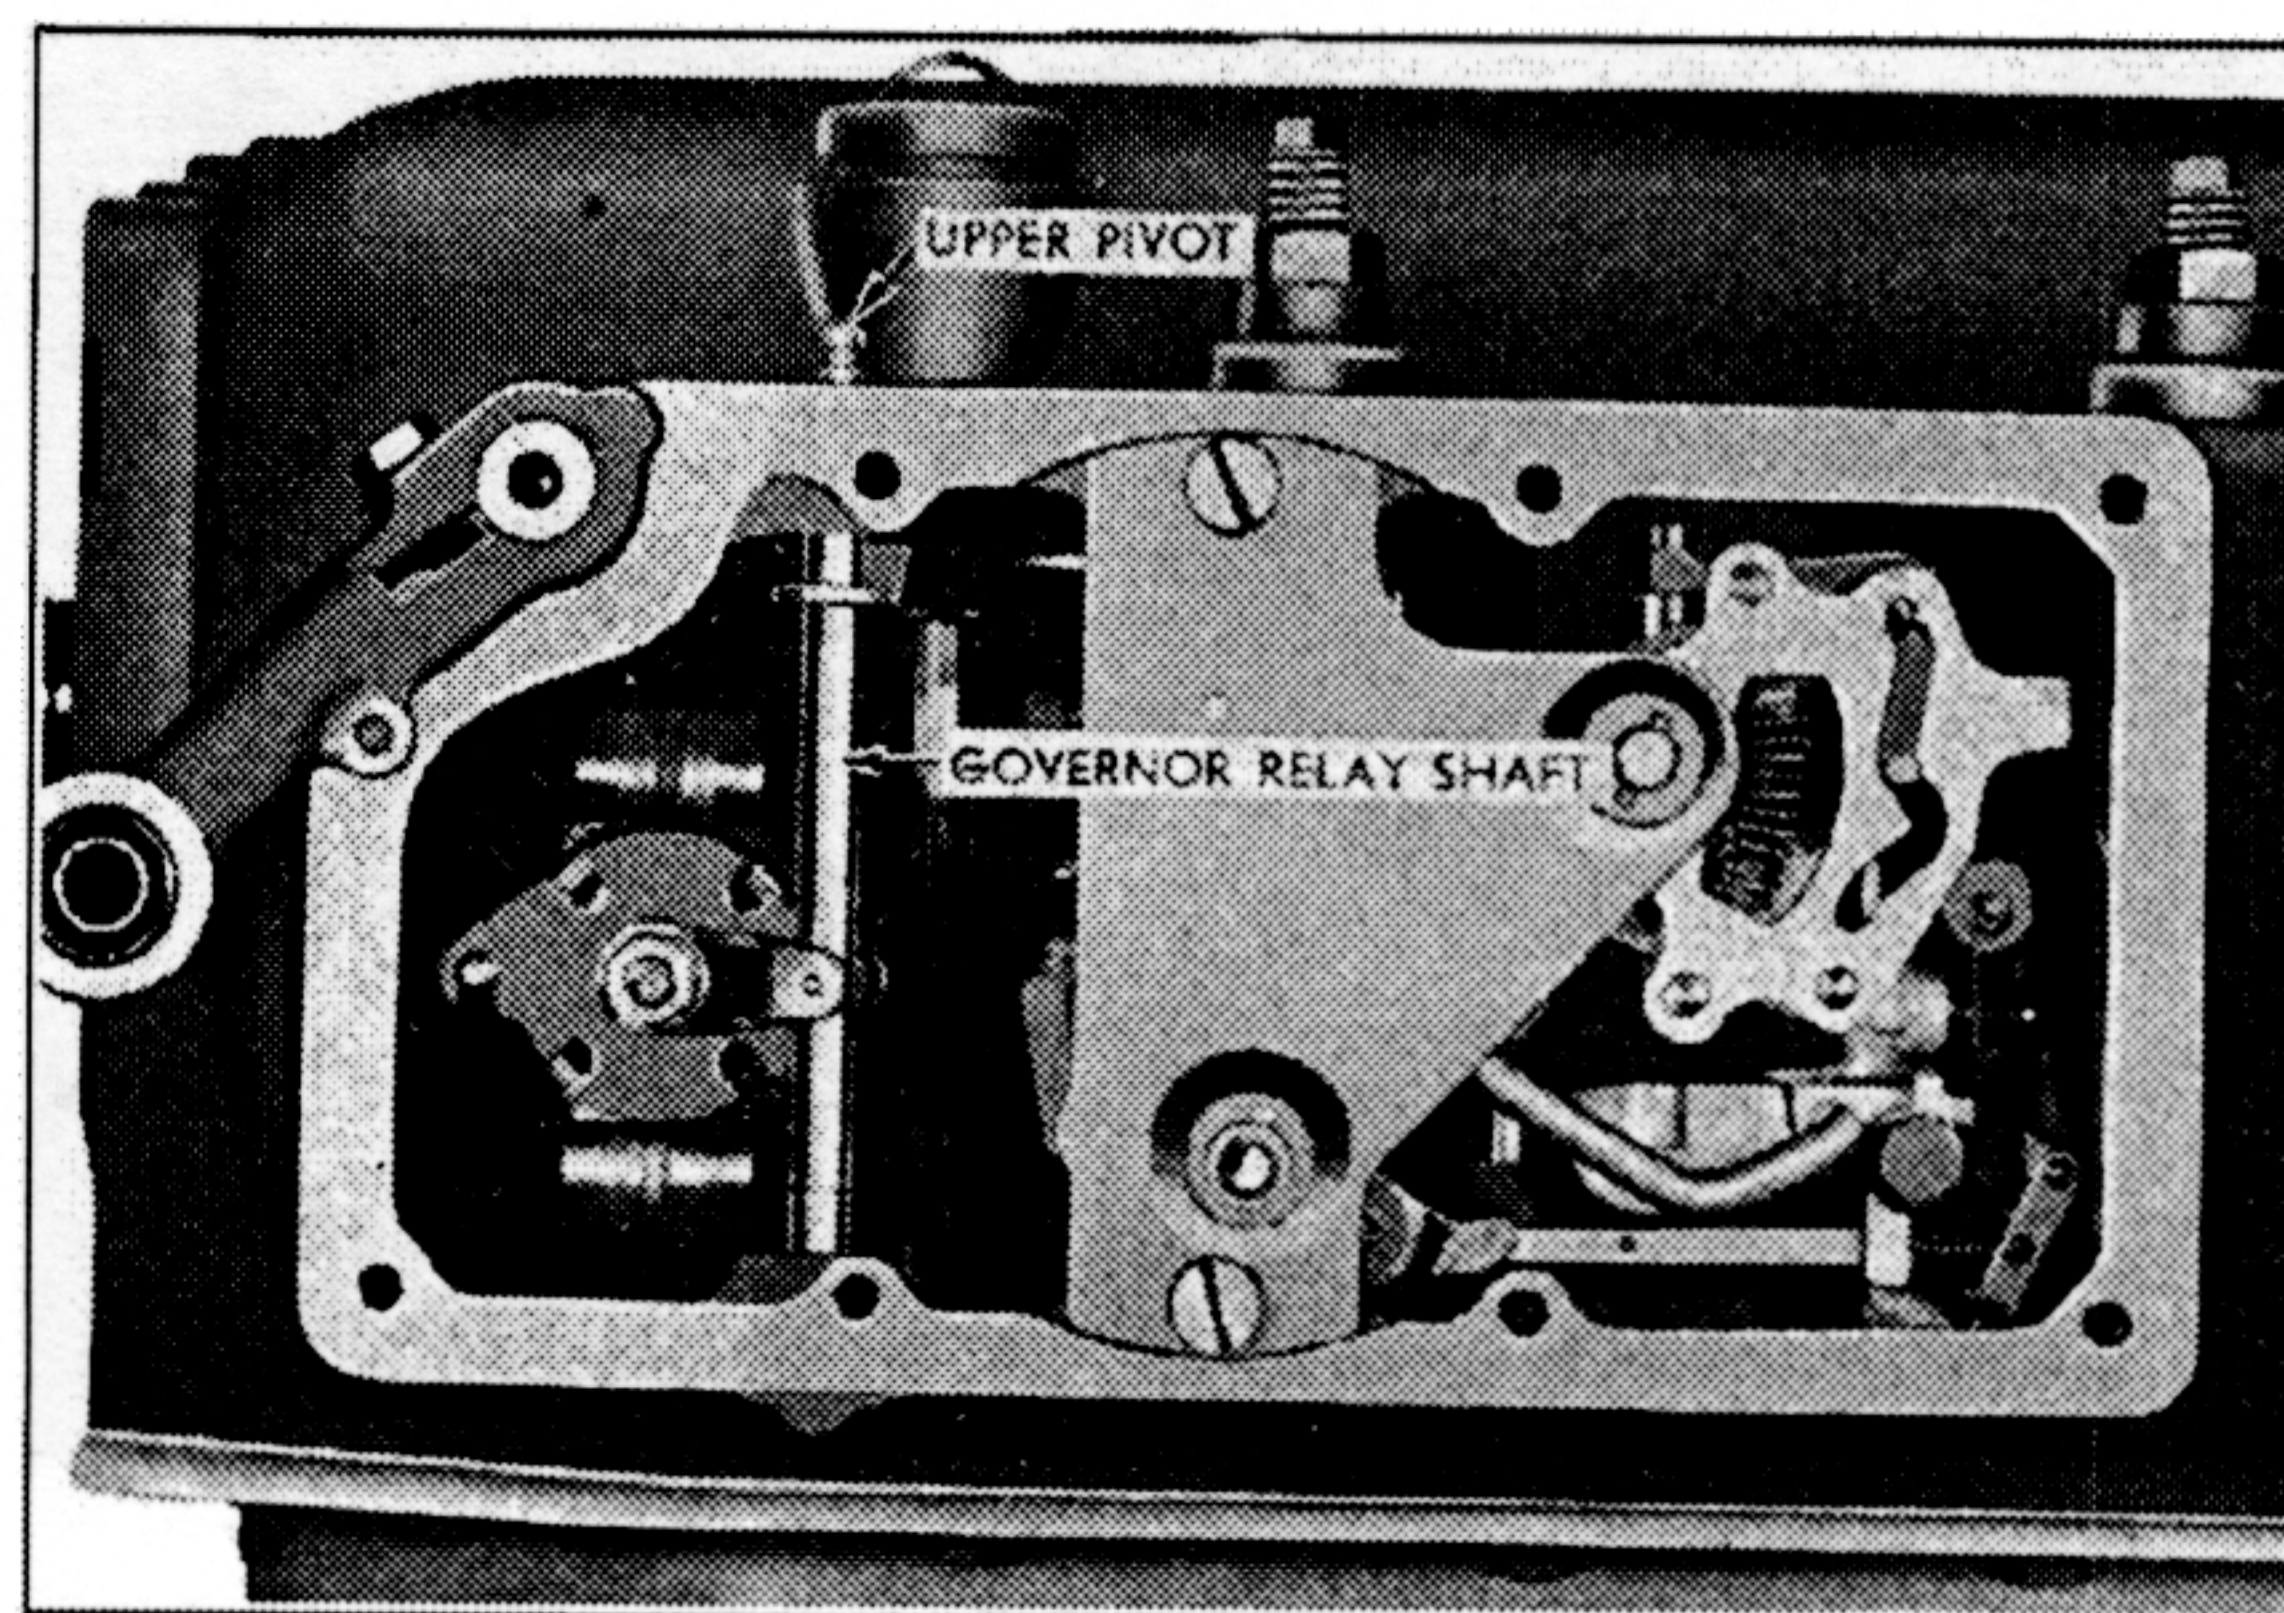

Fig. 21. Governor Relay Shaft and Pivot
NOTE: Do not remove forward and reverse shifting lever. See Fig. 21.
4. Disconnect governor relay shaft from governor assembly by pulling out upper governor relay shaft pivot. This pivot and also the lower one are locked in case by two of the side plate to case screws. See Fig. 21.